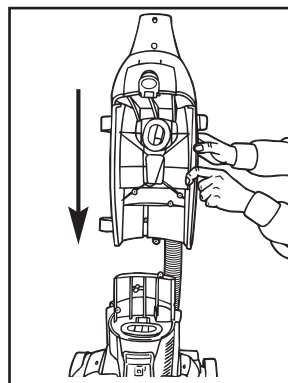

Fig.3/1
1. Slide the back panel on to the base (Fig.3/1).